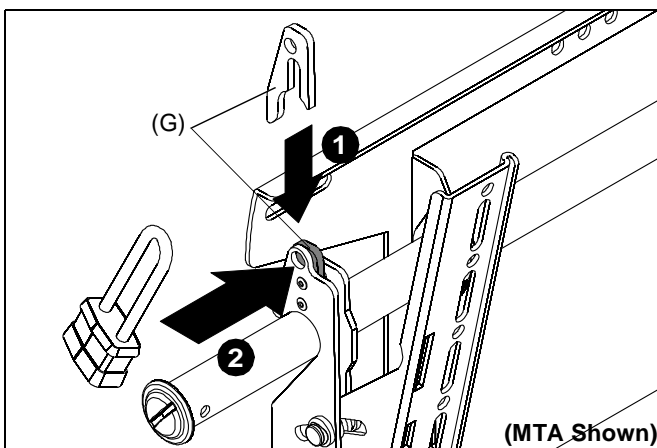

Figure 10
1. Add optional security bracket (F or G) to the mount. (See Figure 10)